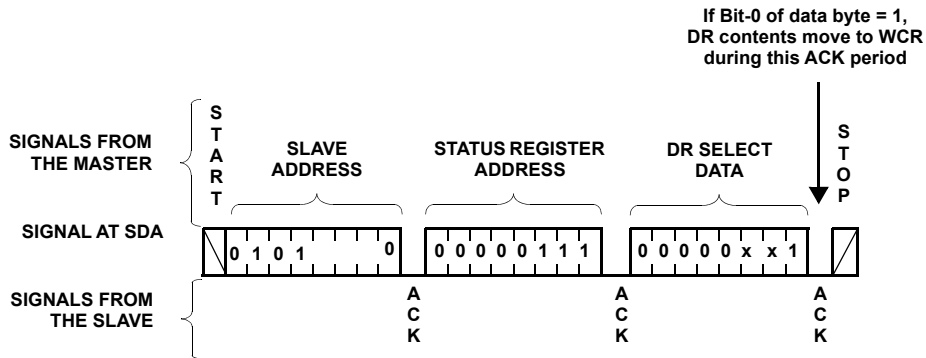

FIGURE 7. STATUS REGISTER WRITE (USES STANDARD BYTE WRITE SEQUENCE TO SET UP ACCESS TO A DATA REGISTER)
13. Load the status register (using a write command) to select the row (see Figure 7)